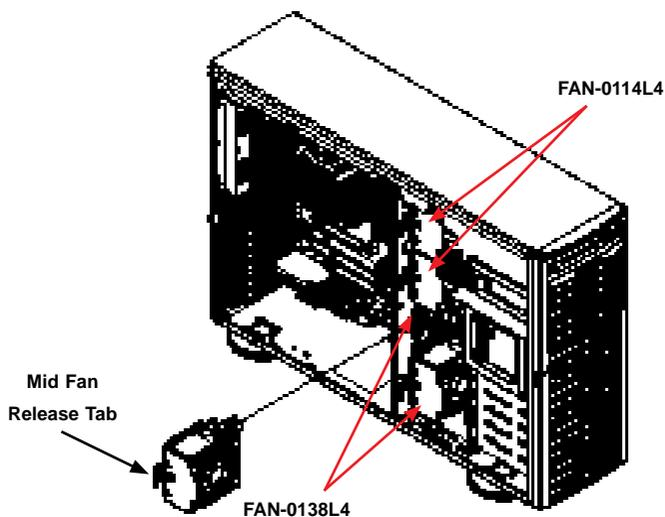

Figure 6-13. Mid-System Chassis Fans
2. Press the fan release tab and lift the failed fan from the chassis. Mid fans must be pulled straight out of the chassis (see Figure 6-13). Part numbers: top two fans are FAN-0114L4 and bottom two are FAN-0138L4.
2. Press the rear fan release tab (see Figure 6-13).